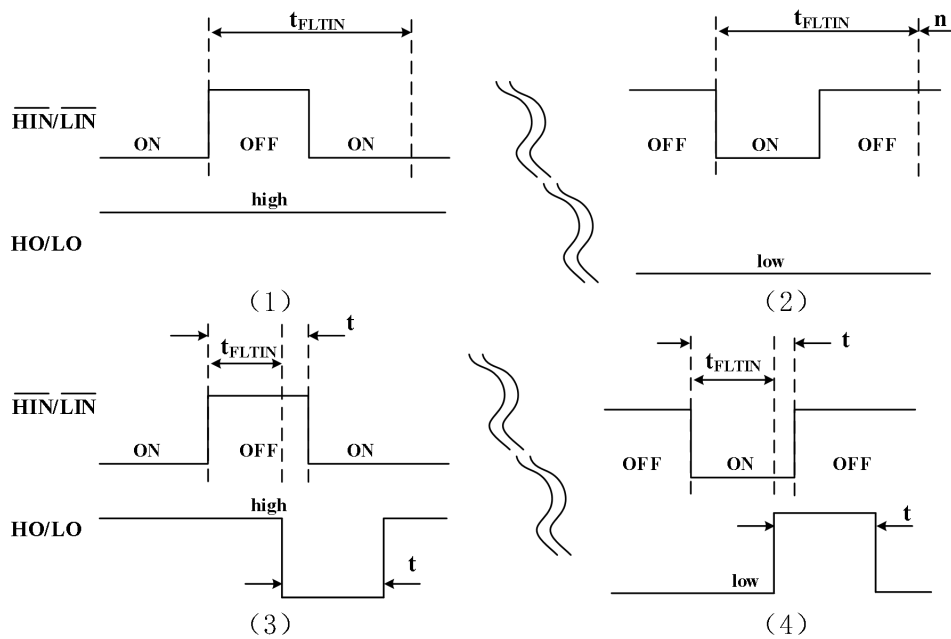

Figure 10-2 Input filter waveform definition
The TPG2136 contains three independent half-bridge signal input ports for receiving control signals from the master without interfering with each other. There is an interlock function between the high side and the low side of each half bridge to ensure that the output of the high side and the low side of the same phase will not be high at the same time. And there is a built-in dead time between the high side and the low side signals, which effectively avoids serious faults caused by overlapping output signals. The signal input port adopts the mode of edge trigger, so after the trigger protection, the next trigger edge signal needs to be given before the output will change. Each signal input port is pulled down to the VSS through a 40KΩ resistor and is set to a low level input when floating. Each signal input port (including the EN enable port) contains a filtering function and will not be triggered by pulses lower than the filtering time. When the input signal of the port containing the filtering function changes, its duration is less than the input filtering time, and the output port is not affected. When the change duration of the input signal is longer than the input filtering time, the output port changes with the input signal and keeps the same time as the input signal, as shown in Figure 10-2:
- (1) When a positive pulse signal is input, and the pulse signal width is less than the filter width ($t < t_{FLTIN}$), as shown in Figure 10.2(1). The output signal does not change and continues to be high;
- (2) When a negative pulse signal is input, and the pulse signal width is less than the filter width ($t < t_{FLTIN}$), as shown in Figure 10.2(2). The output signal does not change and continues to be low;
- (3) When a positive pulse signal is input, and the pulse signal width is greater than the filter width ($t > t_{FLTIN}$), as shown in Figure 10.2(3). The output signal changes, triggering a low level with a duration of t (the same input pulse width time) and then resuming a high level;
- (4) When a negative pulse signal is input, and the pulse signal width is greater than the filter width ($t > t_{FLTIN}$), as shown in Figure 10.2(4). The output signal changes, triggering a high level of duration t (the same input pulse width time) and then resuming the low level.